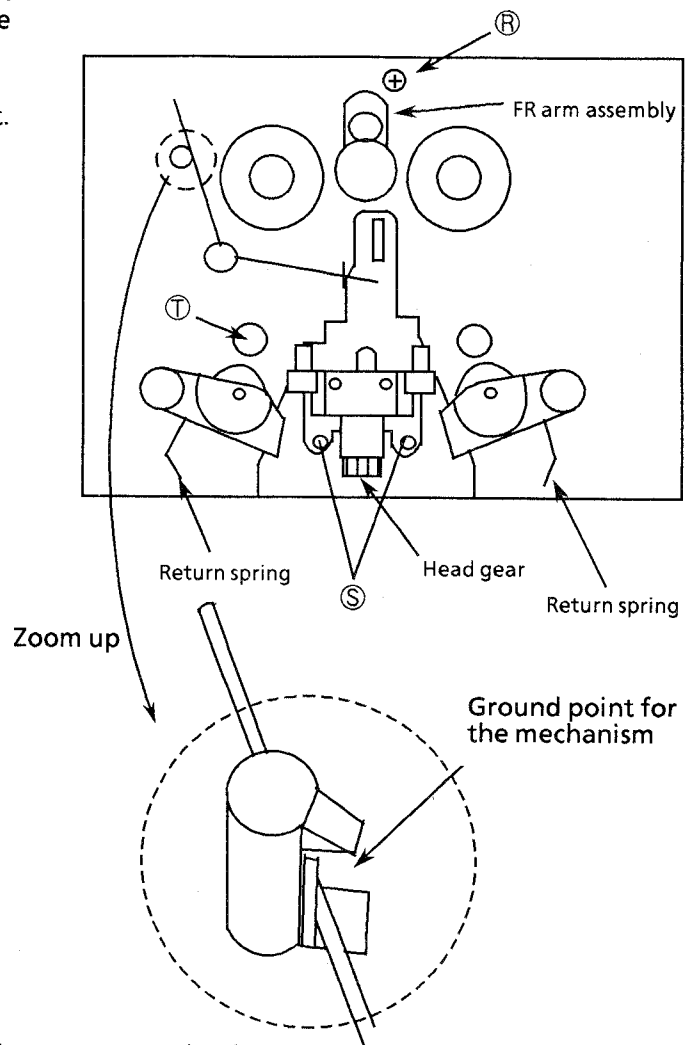

Fig. 14 Front view of the cassette mechanism
- (1) Release the return springs from the hooks (Fig.14) .
- (1) Remove the mechanism assembly.
- (2) Remove the reel motor PC Board.
- (3) Remove the FR arm assembly (Fig. 14) .
- (4) Remove the screws  $\textcircled{R}$  fixing the motor.
- (5) Release the hooks fixing the motor and remove the motor.